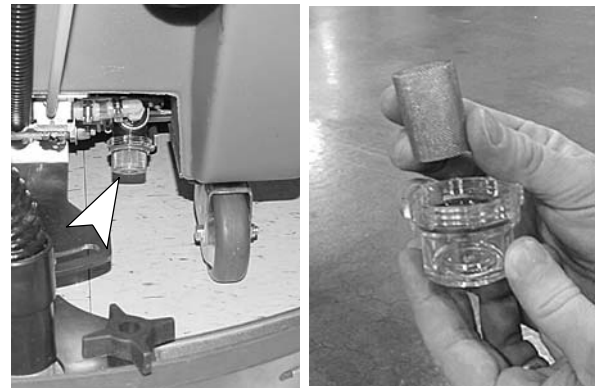

FIG. 40
1. Remove the solution tank filter and rinse out. Before removing filter, be certain solution tank is empty. Filter is located under machine at rear (Figure 40).